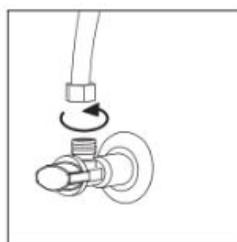

Figure 4.2
2. Remove the cold water line from the cold water supply. See Figure 4.2